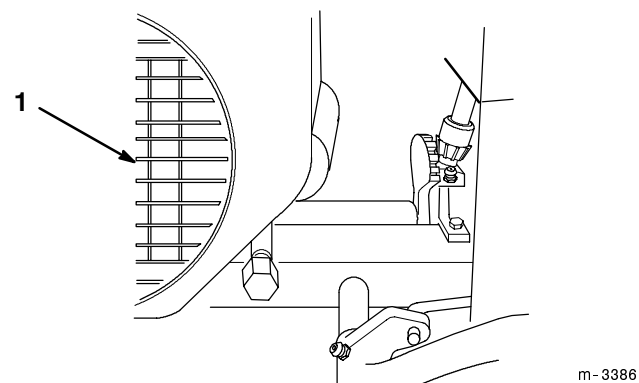

Figure 29
1. Clean off engine air intake (Fig. 29).